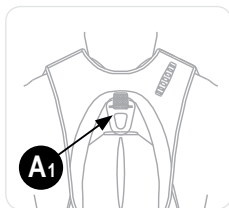

Figure 17
- Connect the karabiner of the energy absorbing lanyard to the fall arrest attachment point marked **A₁** (Figure 17). **A₁** is the only attachment point that will operate the Latchways PRD rescue function.